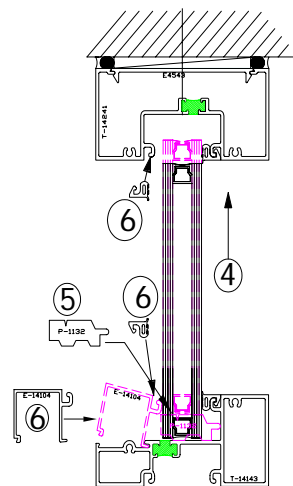

Figure 17.1
E.) With interior frame vinyl in place, insert glass in the opening (*Figure 17.1*).